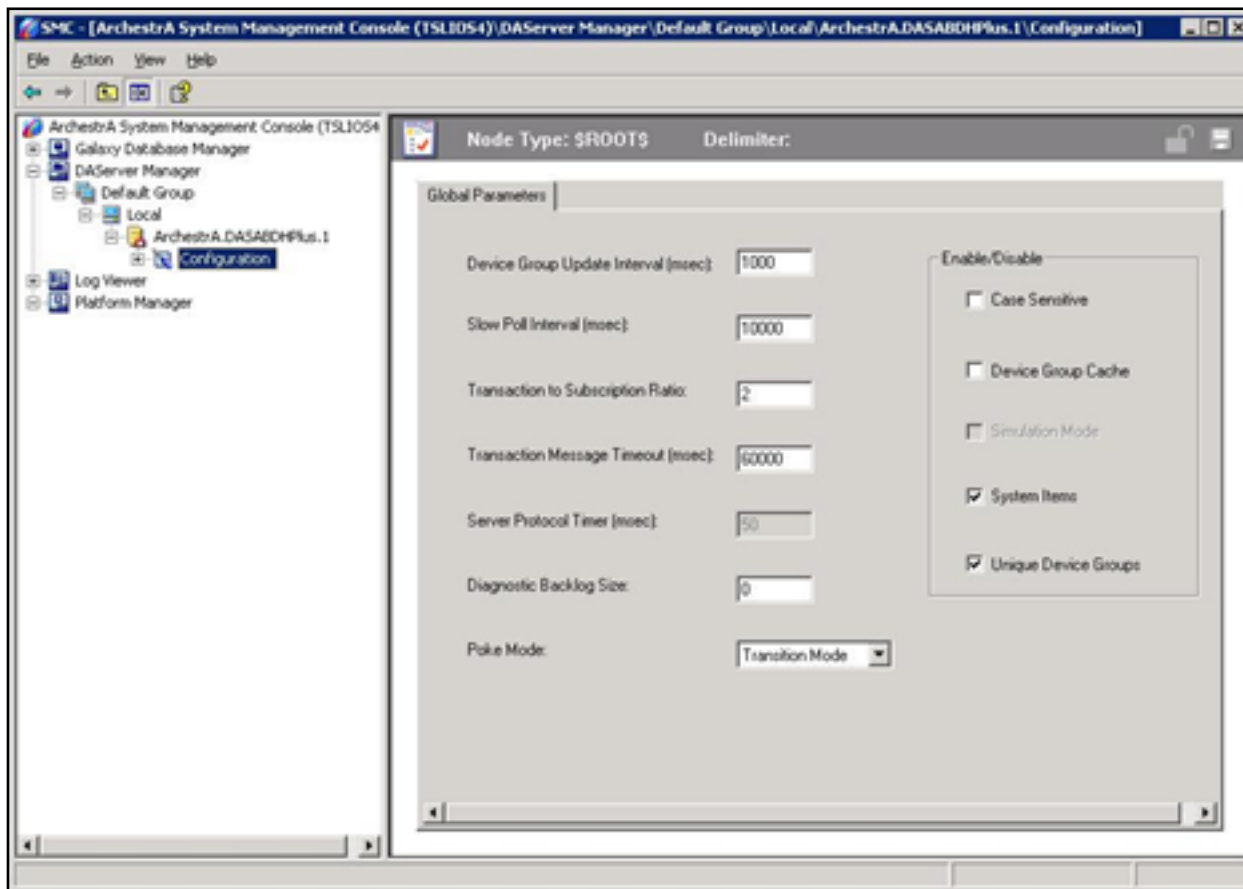

Figure 13: Global Parameters Editor
5. Double-click this icon to open the **Global Parameters** Editor panel (Figure 13 below):